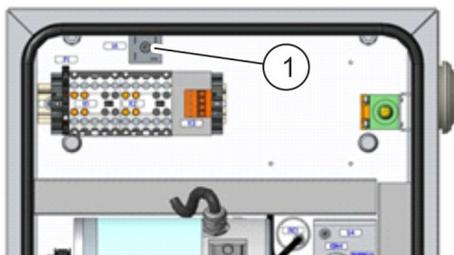

Fig. 21: Replacing the rectifier
3. ➤ Individually disconnect and mark the cable plug connections on the rectifier (Fig. 21/1) and plug them into the new rectifier in the correct position.
4. ➤ Remove the defective rectifier. To do this, undo the M5x8 hexagon bolt (Fig. 21/1).